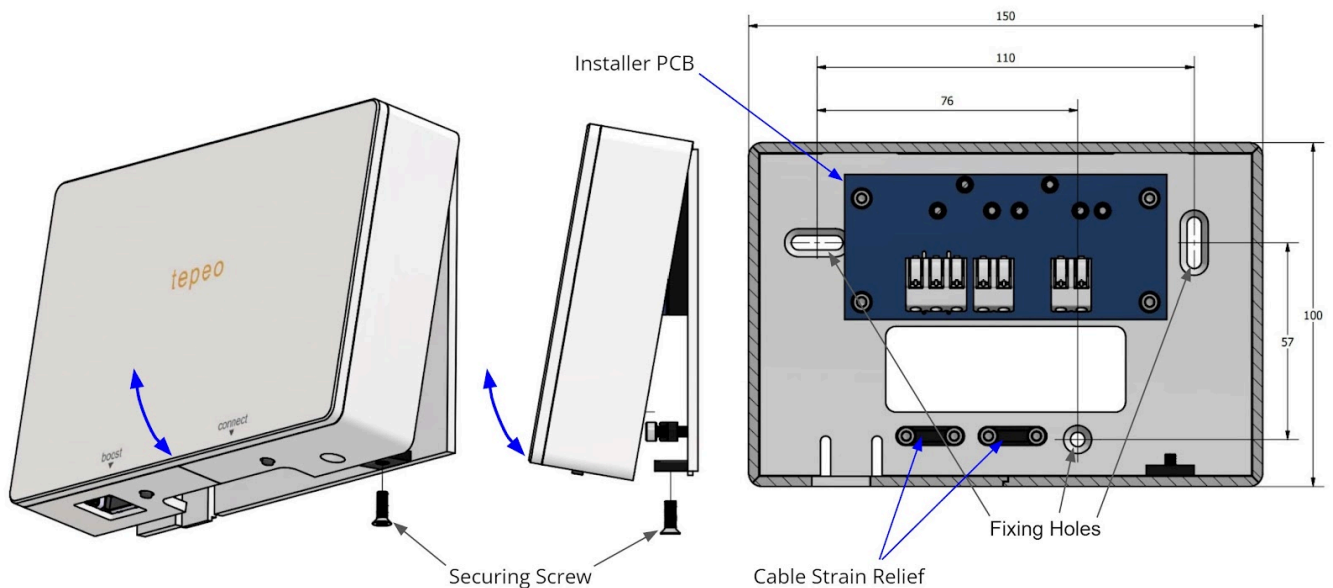

Figure 9: Comms Box outer casing install and removal
- Use the mounting holes on the backplate of the communications box to securely mount it to the wall, as shown in **Figure 9. Note; all three fixing locations on the back plate must be used.**